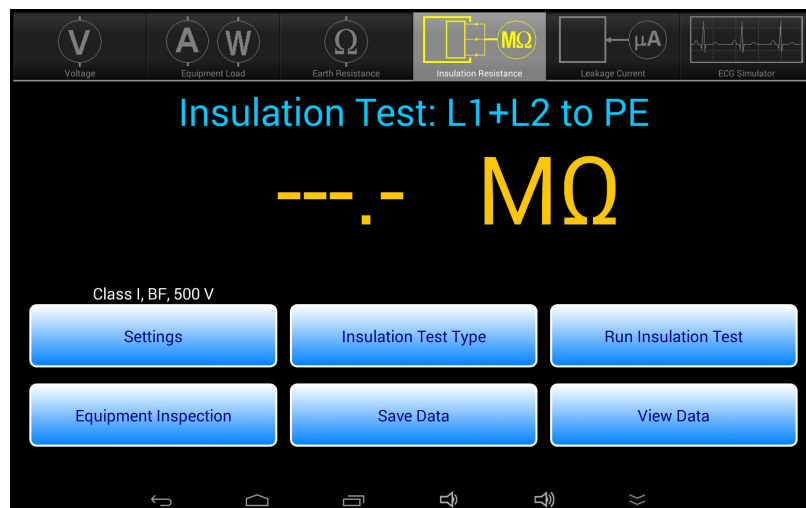
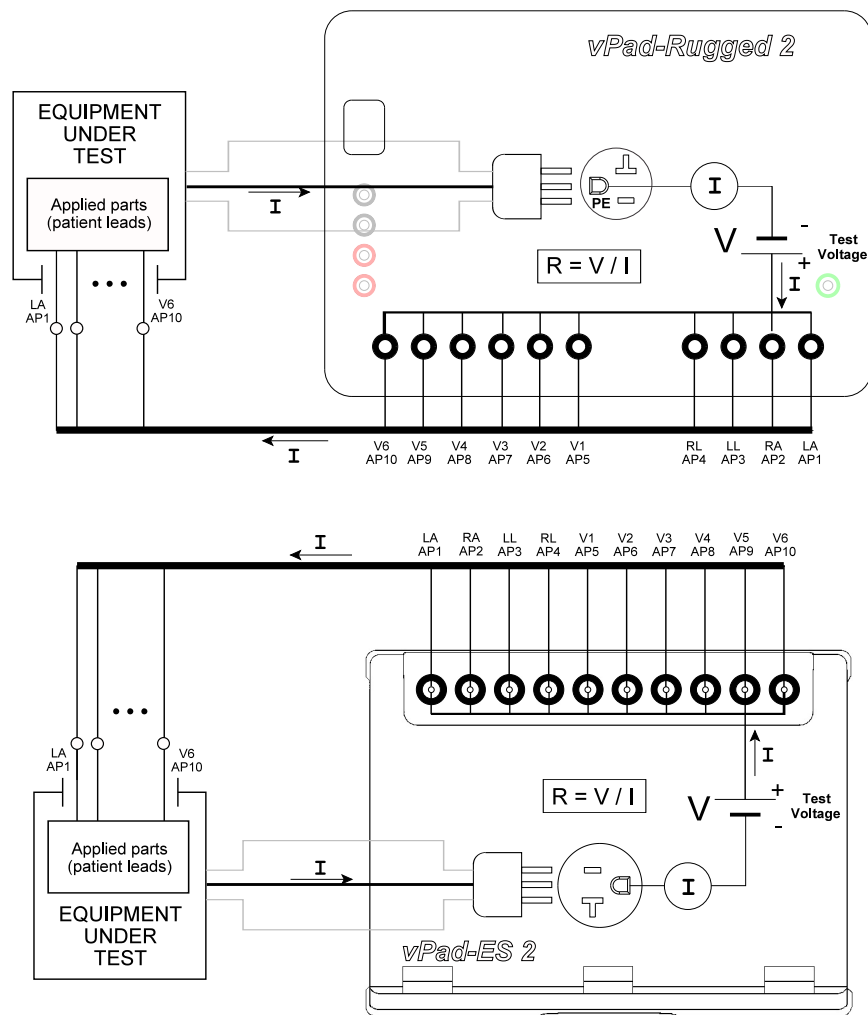

Figure 45 - Insulation test mode.
Figure 51 - Insulation Resistance test - Applied Parts to Protective Earth.
Referring to the display screen shown in *Figure 45*, the **Insulation Test Type** button may be used to select **Insulation Test: AP to PE**, which enables measurement of resistance between the EUT's Applied Parts (AP) and protective earth (PE) terminal. This is represented in the schematic of *Figure 51*.